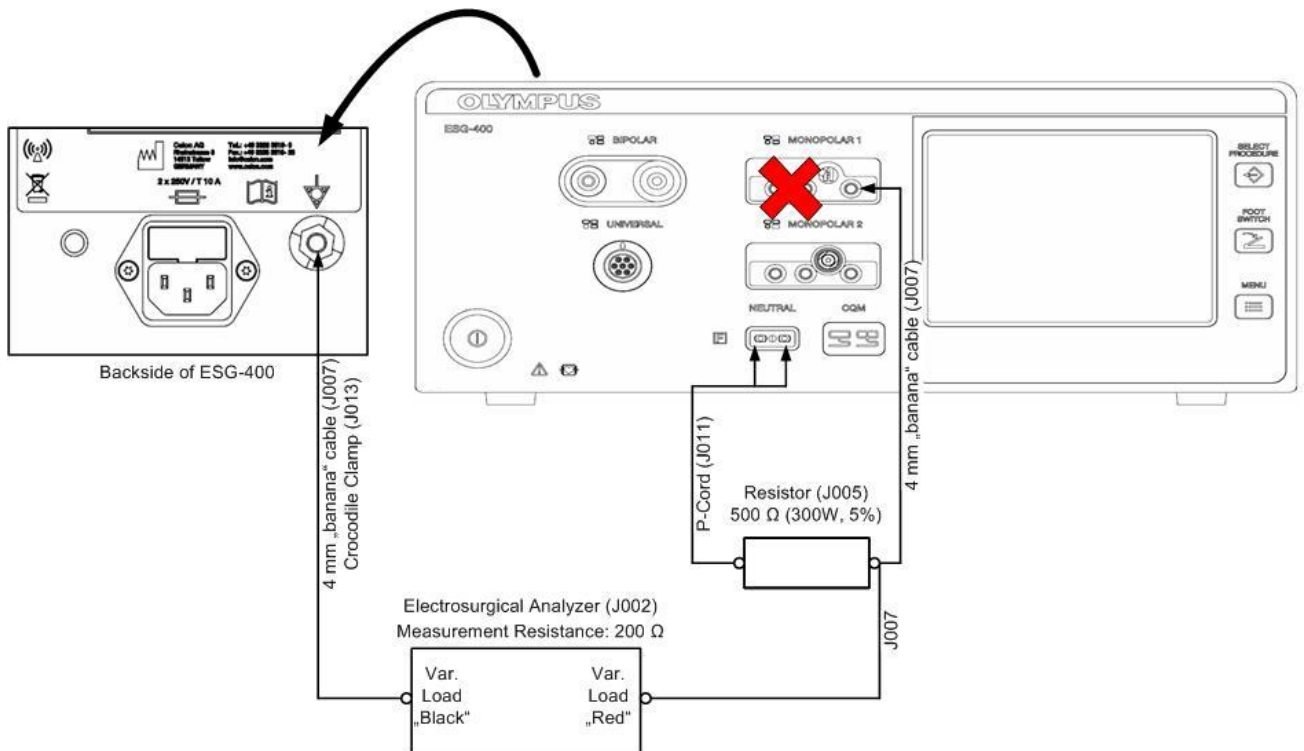
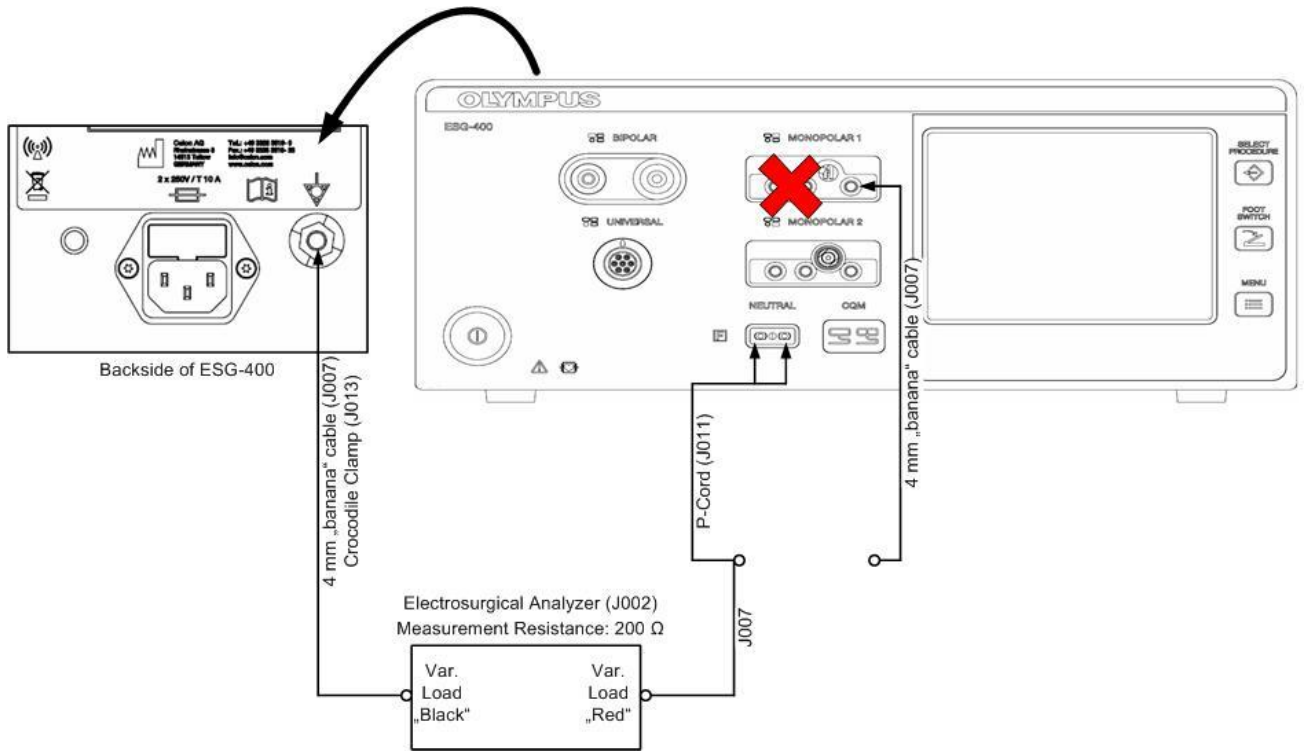

Fig. 5.2.4. Example for the loaded measurement of the monopolar high frequency leakage current at the active pole
Fig. 5.2.5. Example for the unloaded measurement of the monopolar high frequency leakage current at the neutral pole
Fig. 5.2.4 and Fig. 5.2.5 are showing an example how to set up the test to measure the monopolar high frequency leakage current under loaded condition. The load resistor $R_L = 500 \Omega$ (J005) is connected via the connection cable (J007, banana) with the active pole MONOPOLAR 1 and via the connection cable J011 with the NEUTRAL connector. The high frequency leakage current is floating from appropriate pole to the equipotential bonding port. It is measured via the electrosurgical analyzer via a measuring resistance of 200 Ω . Fig. 5.2.4 shows the measurement from the neutral pole; Fig. 5.2.5 shows the measurement from the active pole.
- 2) Set up the measurement according to Fig. 5.2.4 (Measuring of the high frequency leakage current under loaded condition at the neutral pole.)
- 5) Set up the measurement according to Fig. 5.2.5 (Measuring of the high frequency leakage current under loaded condition at the active pole.)